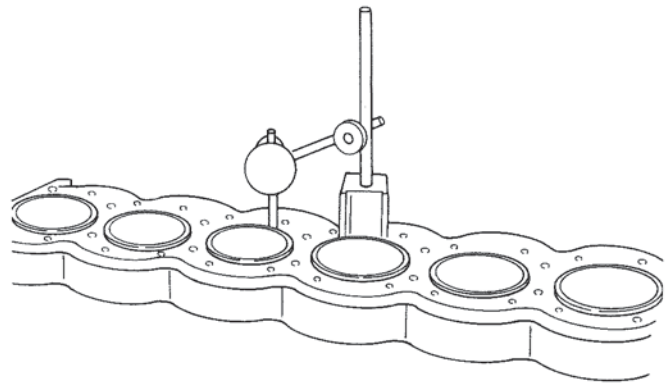

Figure 58. Measuring Liner Projection.
A. Mount a dial indicator on crankcase. Figure 58.